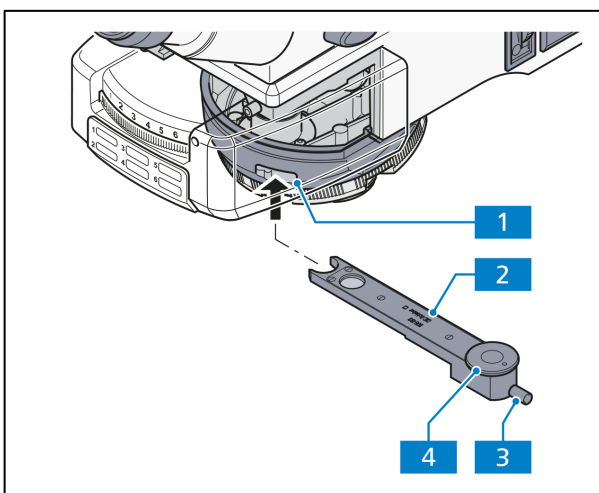
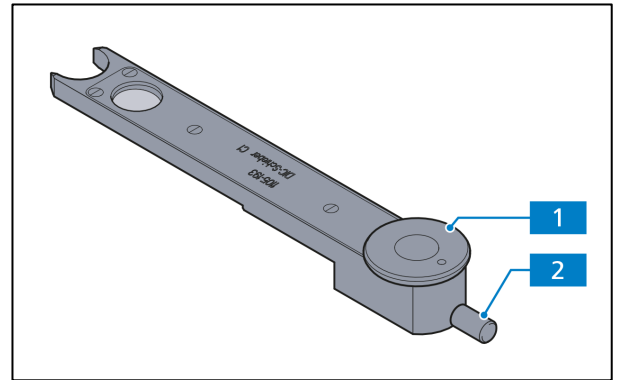
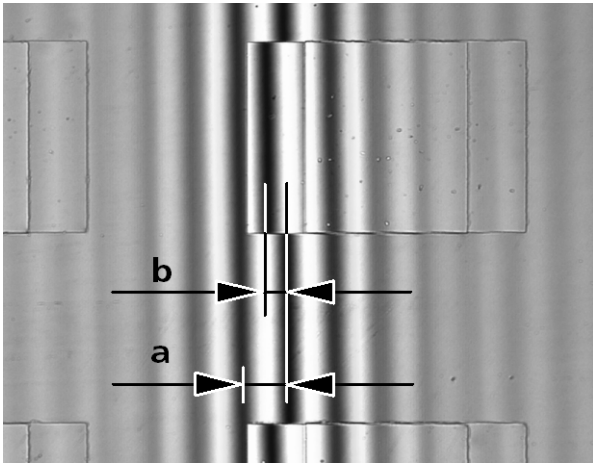

Fig. 4-16 Compensator slot 6x20 mm with C-DIC slider 6x20 mm
Fig. 4-17 TIC slider 6x20 mm
Fig. 4-18 Interference stripes
(4) Reflected light C-DIC
- Slide the C-DIC slider (Fig. 4-16/2) into the 6x20 mm compensator slot (Fig. 4-16/1).
- Place the sample on the stage, focus and turn the control knob (Fig. 4-16/4) on the C-DIC slider so the structure of interest is visible with maximum contrast. No further stage rotation is necessary.
- The contrast can be optimized by adjusting the control knob (Fig. 4-16/3) on the C-DIC slider.
(3) Setting reflected light TIC
- Slide the 6x20 mm TIC slider in the compensator slot 6x20 mm (Fig. 4-16/1). You will see chromatic interference stripes in the field of view. Using the control knob (Fig. 4-17/2) of the TIC slider, move the black interference stripe by sight to the middle of the field of view.
- To choose the structure to be measured, turn the knob (Fig. 4-17/1) on the TIC slider until the interference stripes are vertical to the direction in which the specimen is broken down (see Fig. 4-18). The interference stripes can be shifted with the aid of the control button (Fig. 4-17/2).
The values a and b (see Fig. 4-18) are determined with the aid of the eyepiece reticle micrometer or with the micrometer eyepiece.